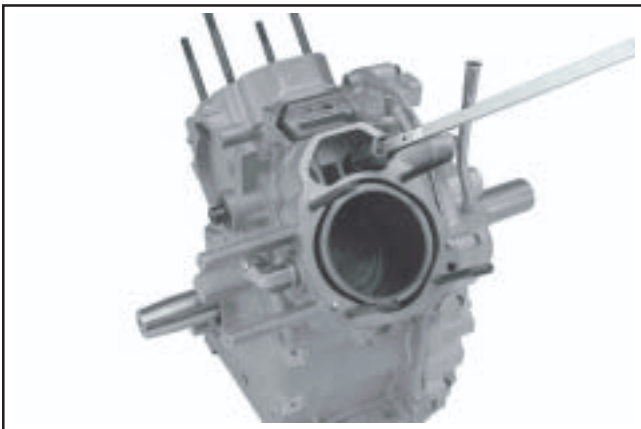

Figure 9-53. Removing Lifters.
5. Remove the hydraulic lifters using lifter removing tool SPX No. KO1044 (**do not use a magnet**). Mark them similar to the push rods (intake or exhaust and cylinder 1 or 2). Hydraulic lifters should always be reinstalled in their original location. See Figure 9-53.